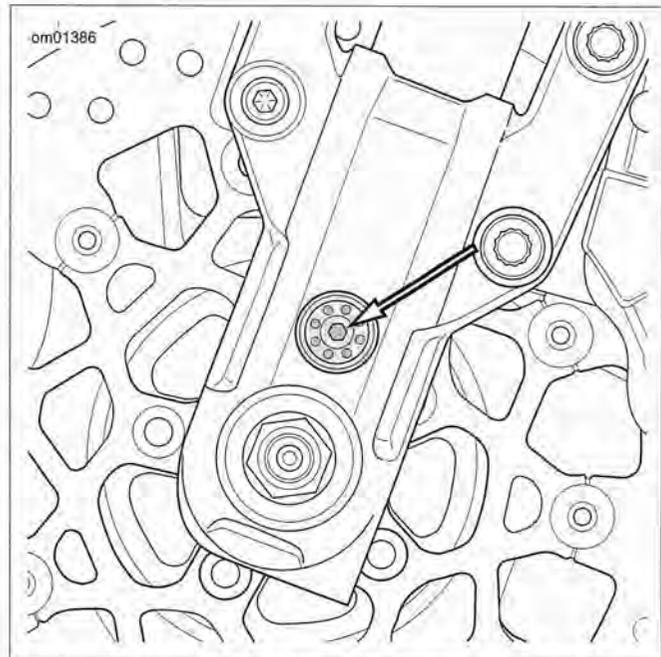

Figure 1-69. Spring Preload Adjuster: XR 1200X
1. See Figure 1-69. With a hex key, turn the preload adjuster counterclockwise until it stops. This is the minimum preload setting.